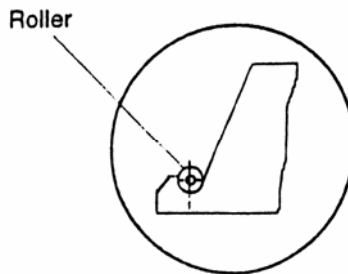

Figure 12
30. The achievable opening dimension between the doors or from the leading edge of the door to strike jamb may range from 1-15/16 in. to 2-1/8 in. with the roller caught in the depression (see Figure 12). The doors should not be able to open any further. If dimensions are not achieved, redo steps 23–29.